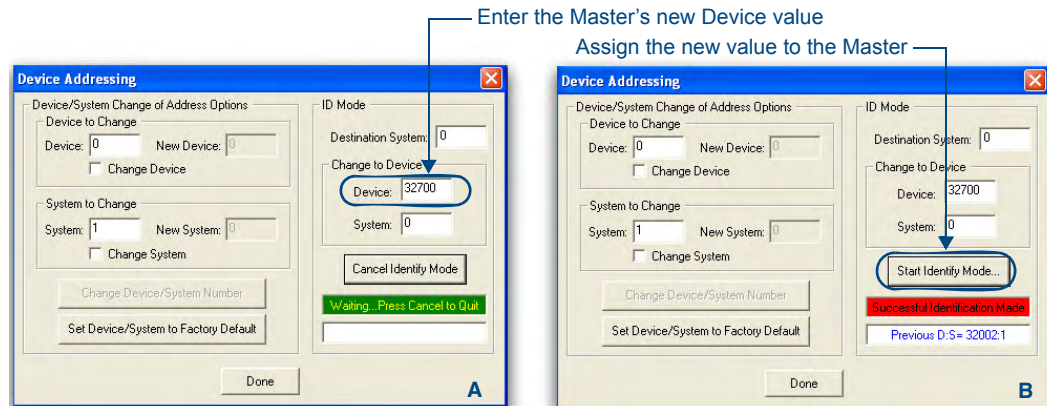

FIG. 1 NetLinX Studio: Device Addressing dialog (using the ID mode to set the NI Controller's device value)
1. Access the *Device Addressing* dialog (FIG. 1) by selecting **Diagnostics > Device Addressing**.
2. In the *Device* field (A in FIG. 1), enter the new value for the NI Controller (range = 0 - 32767).
3. Press the **Start Identify Mode** button (B in FIG. 1).